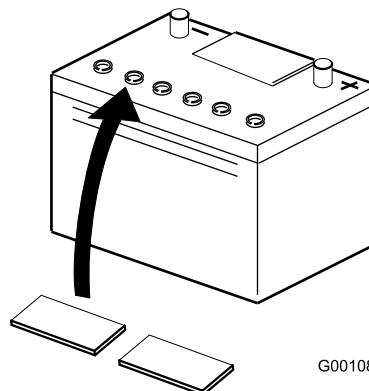

Figure 9
2. Clean the top of the battery and remove the vent caps (Figure 9).
5. Install the battery vent caps (Figure 9).